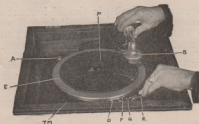

FIG. 5
- 1. To make tone soft, push the tone modulator slide (T. M. Fig. 5) toward the right.
NOTE—In attaching ball (H), regulate the extent to which wire enters the ball, so that the latter will just close the inner opening of the horn, without leaving undue slack in wire, when the tone modulator slide (T. M. Fig. 5) is to extreme right.
2. Turn speed adjusting knob (A) to right until it strikes the pin.
3. Swing Reproducer (B) to extreme right.
4. Place the RE-CREATION (C) on the turn-table.
5. Start phonograph by pushing starting lever (D) to left.
7. Lower Reproducer onto the RE-CREATION by raising the operating handle (E) to vertical position with the left hand, while guiding the Reproducer with the right hand as shown in Fig. 5.
9. When the selection is finished, raise the Reproducer by means of the operating handle and stop the phonograph by pushing brake lever (F) to left.
- (d) Loosen set screw (L) slightly; i. e., enough to allow the arm (M) to be turned at (N) by hand.
- (f) To make Safety Stop operate later, turn arm (M) slightly to the left; to make it operate earlier, turn arm slightly to the right.
- (g) Continue this adjustment until the phonograph stops with the diamond point of the Reproducer just at the outer circumference (P, Fig. 5) of the label on the RE-CREATION.
- (d) If the speed is found to be more than eighty (80) turns, it may be corrected by turning the speed adjusting knob (A, Fig. 5) slightly to the left until the correct speed is obtained.
- (e) In rare cases the speed may be found to be less than eighty (80) turns; if so, it may be corrected by turning the adjusting screw, which will be found in the speed adjusting lever beneath the top-plate. This screw is reached by removing the grill in the front of the cabinet and reaching into the horn compartment to the left of horn.